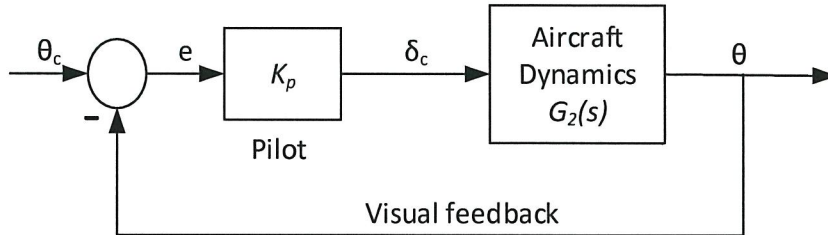

Figure Q5 Block diagram for the Wright Flyer control system.
- Q5** The Wright Flyer was known to be a statically and dynamically unstable aircraft. However, the Wright brothers were able to fly their aircraft successfully due to sufficient control authority incorporated into their aircraft design. Although the airplane was difficult to fly, the combination of the pilot and aircraft could be a stable system (see **Figure Q5**). If the closed loop pilot is represented as a pure gain, K_p , and the pitch attitude to canard deflection is given as follows: